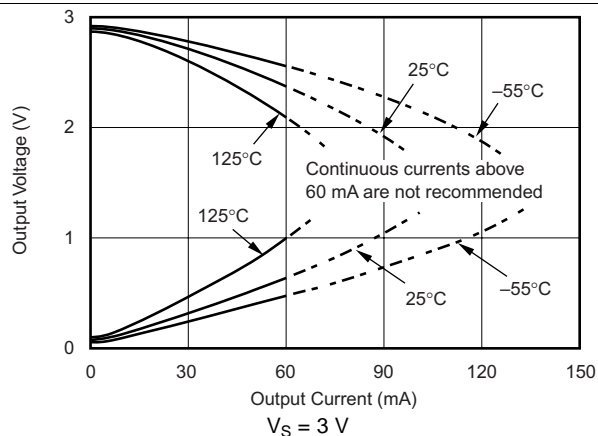

Figure 20. Output Voltage Swing vs Output Current
(1) Full range $T_A = -40^\circ\text{C to }125^\circ\text{C}$.
(2) See Figure 20.
TI does not recommend running a continuous dc current in excess of ± 60 mA. See Figure 20 in the Typical Characteristics section.